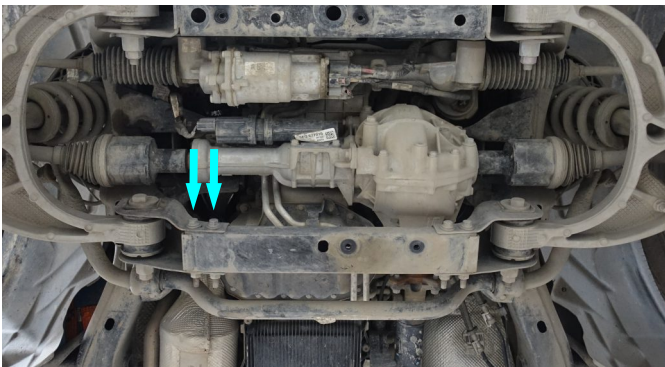

Fig. 3
3. Remove two factory bolts from car frame on the right side of the vehicle (fig.3).